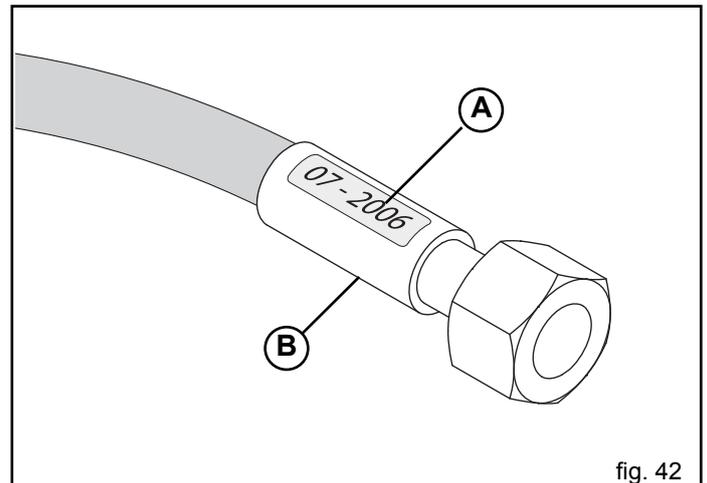

fig. 42
- Replace the hydraulic pipes every 5 years even if they have not been used (natural aging). Figure 42 (A) shows hydraulic pipes bearing the year of manufacture as an example.
- when leaks are identified near the pipe sheath (B, Fig. 42);
- when the sheath is corroded (B, Fig. 42);
- 5 years after their manufacture (A, Fig. 42).